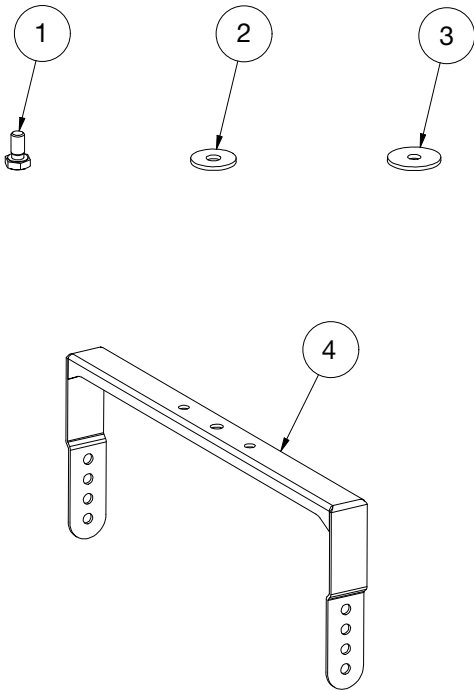

Figure 2.1 - Overview
Mount positions 1 to 3 (see figure 2.1) on both sides as shown in figure 4.4. Note that at pos.4 (see figure 2.1) one of the side holes is used.